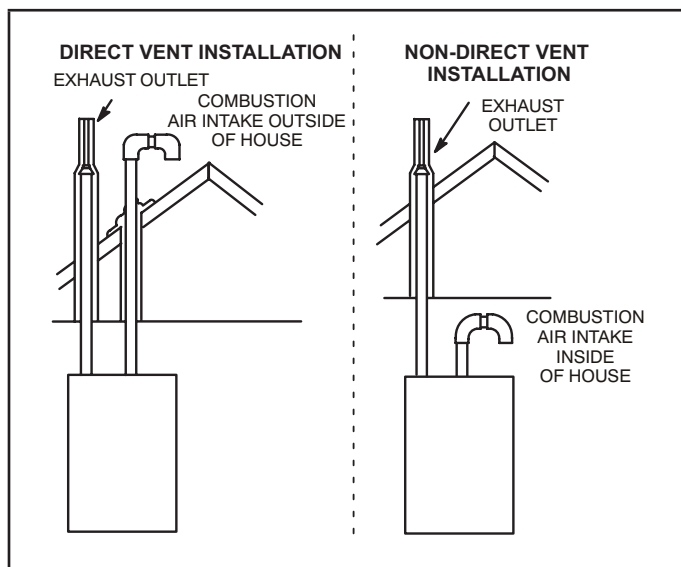
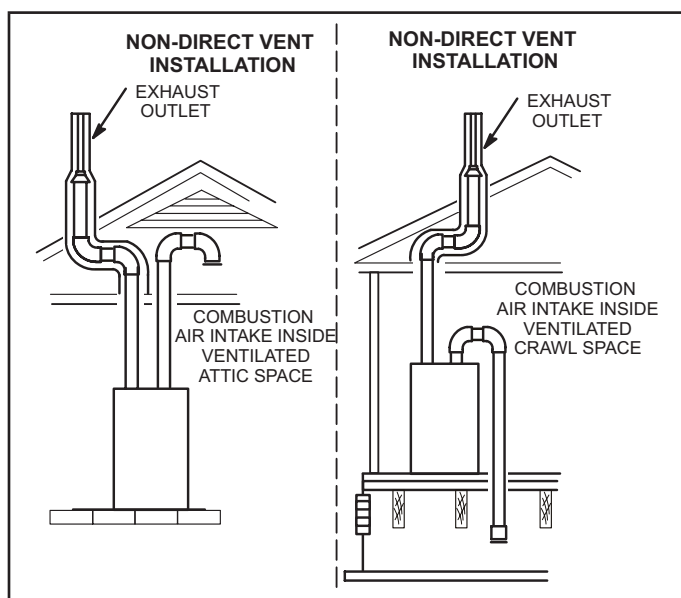

FIGURE 1
FIGURE 2
**NOTE** - In Direct Vent installations, combustion air is taken from outdoors and flue gases are discharged outdoors. In Non-Direct Vent installations, combustion air is taken from indoors or ventilated attic or crawlspace and flue gases are discharged outdoors. See FIGURE 1 and FIGURE 2 for applications involving roof termination.